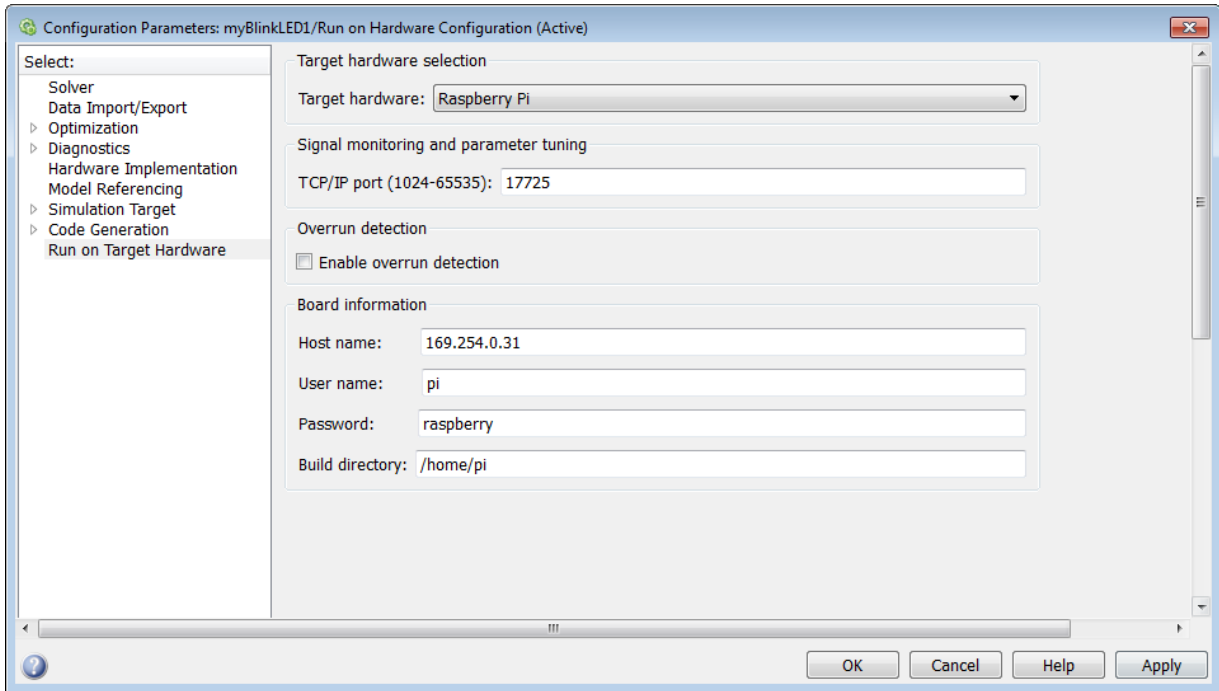

Figure 15: Run on Target Hardware pane
- To configure the model for real-time implementation on the Raspberry Pi select **Tools > Run on Target Hardware > Prepare to Run...** and check for the following settings in the **Run on Target Hardware** and **Solver** panes (see **Figure 15 & 16**):